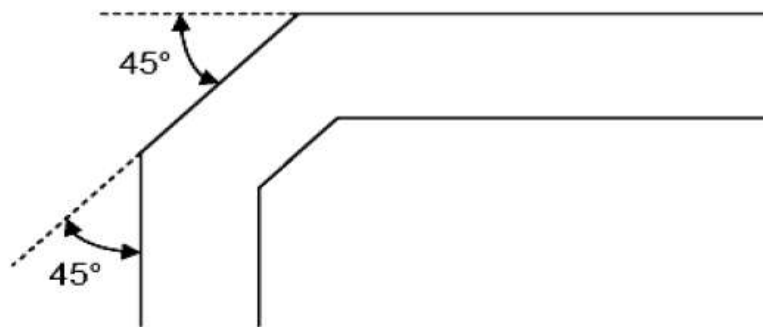

Figure 3-5 Bend layout example
- For high-speed signals, they should minimize the number of corners and vias. If a 90° bend is required, it is recommended to use two 45° bends instead. Figure 3-5 shows the example.